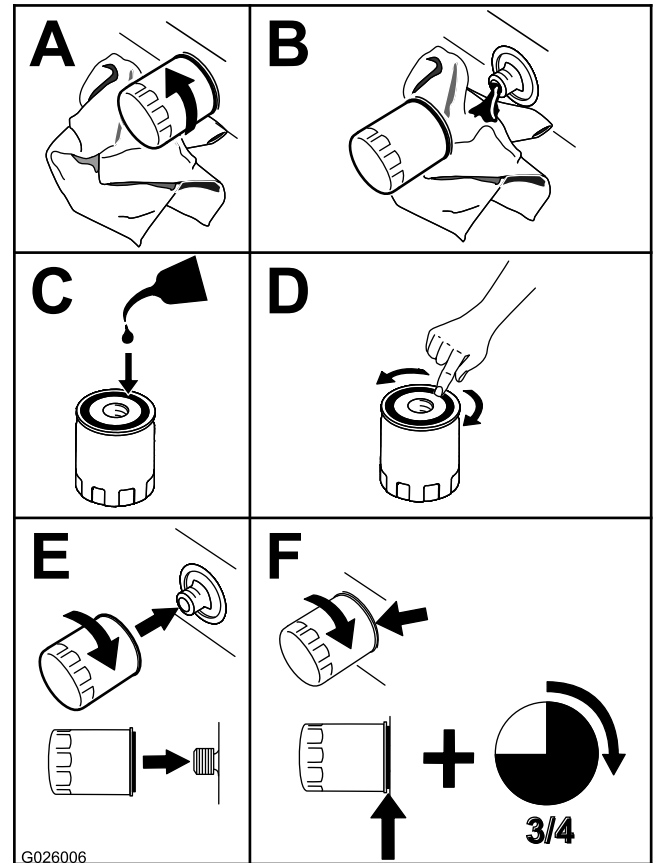

Figure 35
3. Change the engine-oil filter (Figure 35).